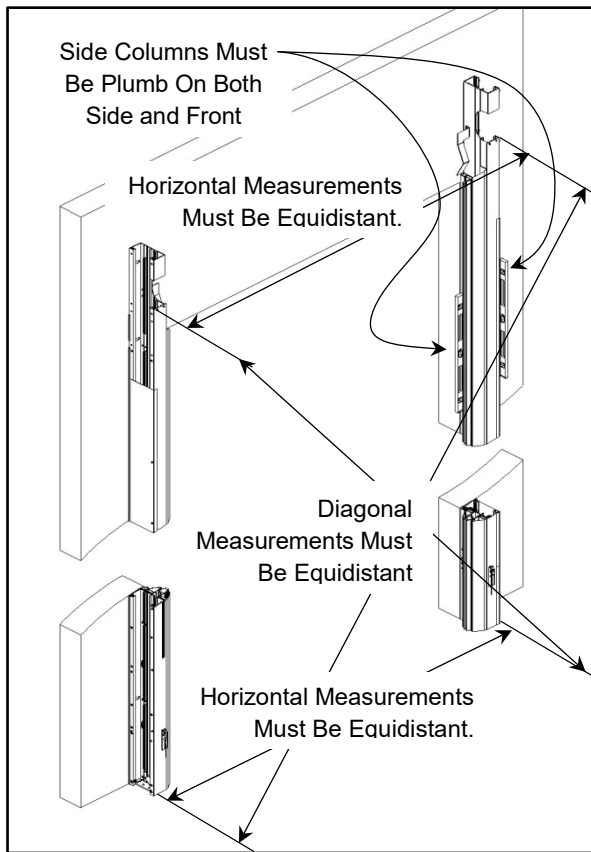

Figure 14
- With both columns set and at least snugly bolted in place to the wall, once again check the overall plumb and squareness of each column. (See Figure 14)
- Note:** It is critical that the horizontal distance between the mating surfaces of the side columns which the head bolts to, match the mating width between the head assembly mounting plates. (See Figure 14)